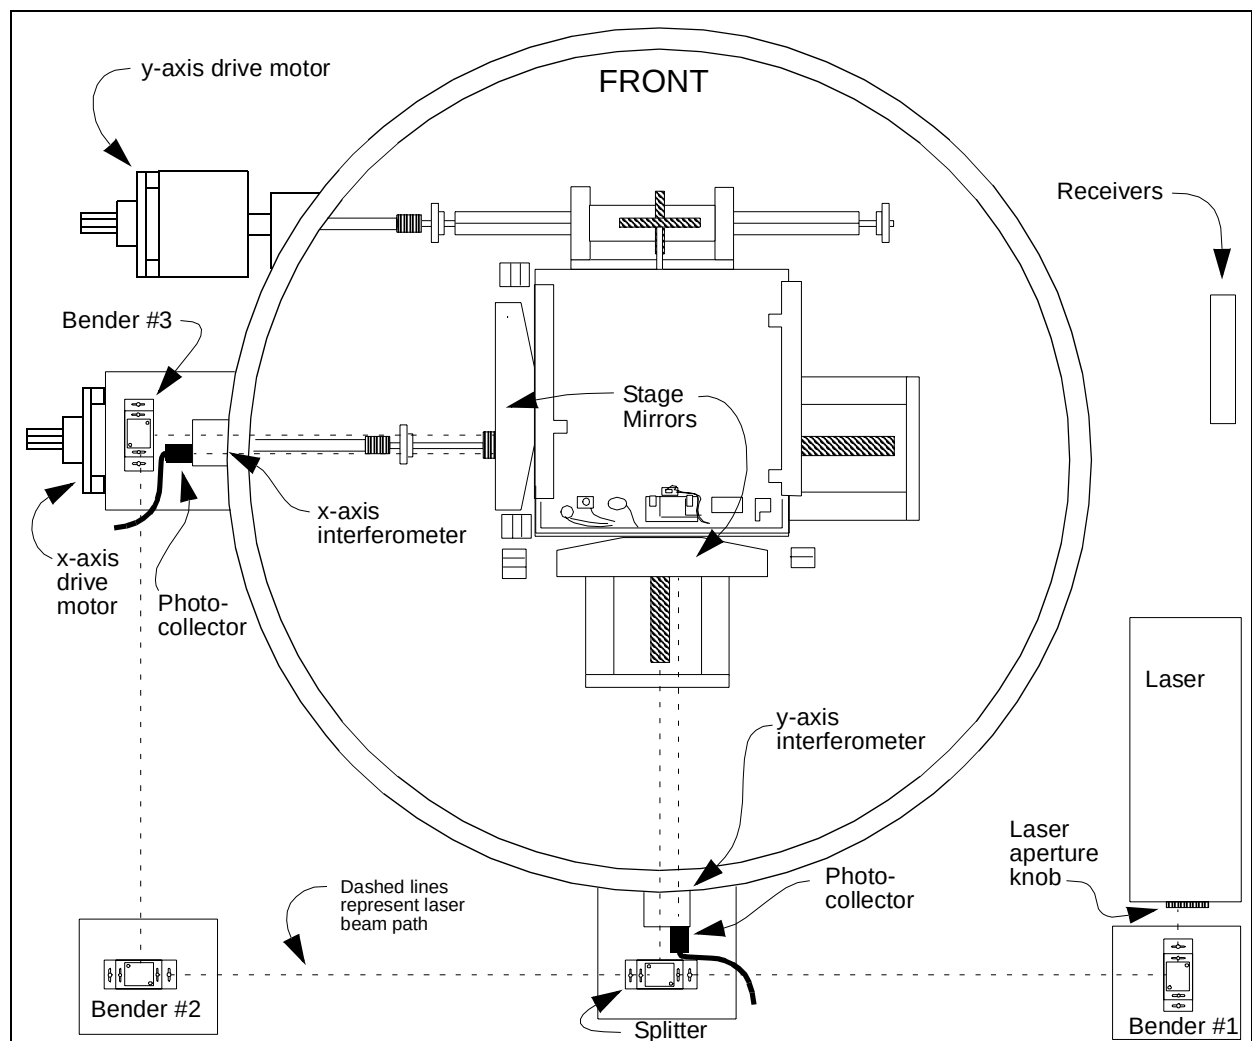

Figure 4. Top View of the Workchamber and Laser IF System (Lid Open)
- 3-1.** Inspect each interferometer (see Figure 4 for the location of the x and y interferometers).
- 4-1.** Using the *motorshell* program, move the stage to the left front corner of the workchamber (as viewed from the front of the workchamber). Service Procedure 03-01, Stage Travel Limit Switch Inspection, describes how to use the *motorshell* program to move the stage. It is also possible to move the stage by turning the ends of the x and y drive motor shafts (outside of the workchamber) by hand or with a 3/8” box wrench, but it is recommended that you use the *motorshell* program to move the stage. See Figure 4 for the location of the laser system components.
- 4-8.** Adjust beam bender #1 (using a laser target) so that the beam output from bender #1 is centered on the input to bender #2 (Figure 4 shows the location of the beam benders). It may be necessary to adjust the rotational and lateral position of bender #1 in order to center the beam on the input to bender #2. If this is the case, check the beam alignment at the input to bender #1, and adjust if necessary.